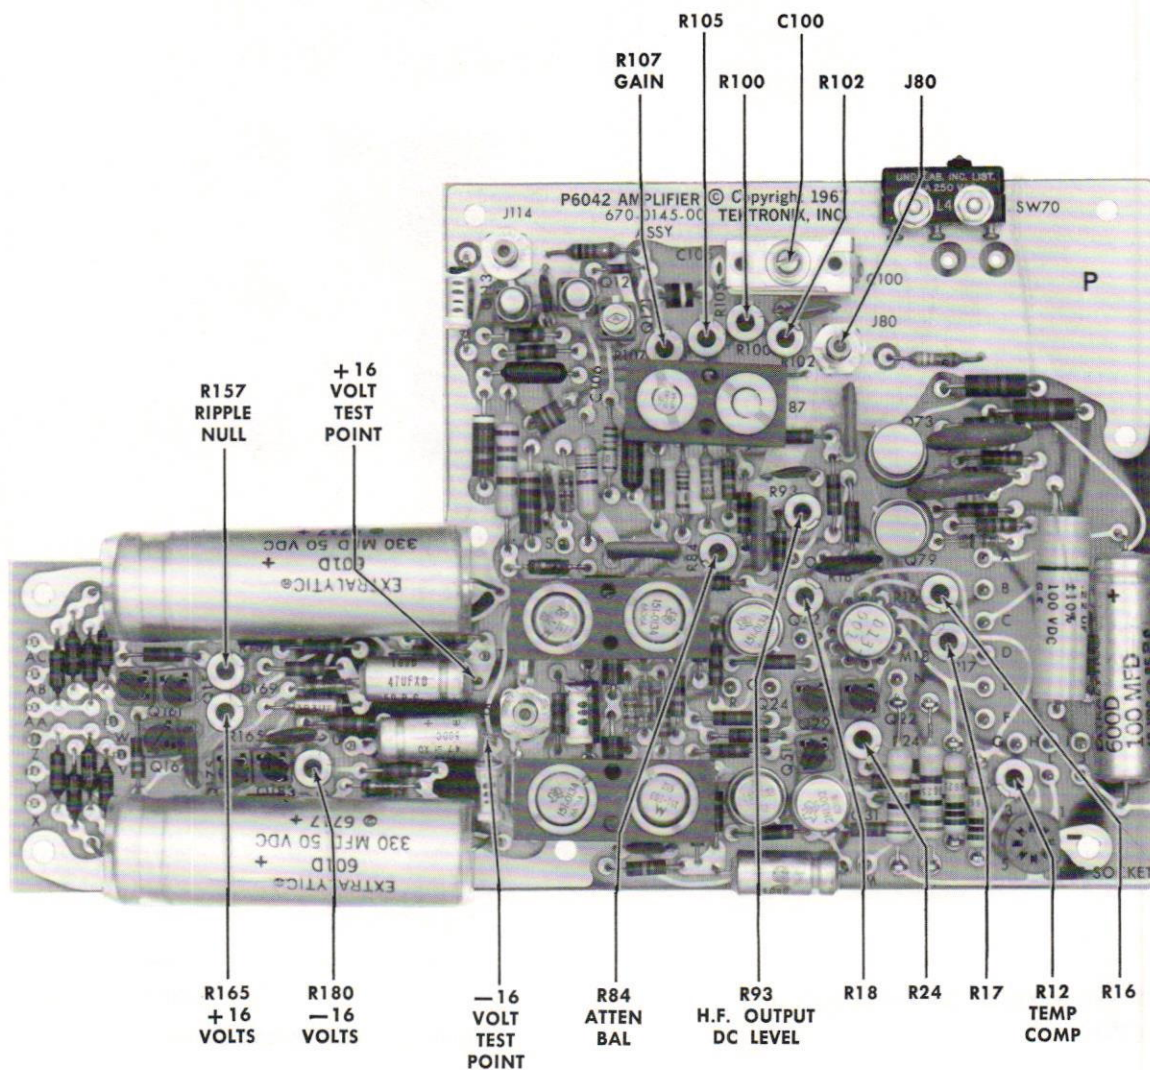

Fig. 6-3. Location of internal adjustments and test points.
Before starting the procedure, preset R16, R17, and R18 counterclockwise. Do not preset any other internal calibration controls unless they are known to be significantly out of adjustment. In this case, set the remaining controls, with the exception of R12 to midrange. Do not adjust R12, which is a part of the temperature compensation network. This is set at the factory according to the requirements of the Hall device. If the probe transformer is replaced, adjustment procedure is supplied with the replacement kit. Fig. 6-3 shows the location of internal adjustments.
- Using an ohmmeter, measure the resistance to ground at the +16 volt test point (see Fig. 6-3 for location of test point). Check for  $\geq 300 \Omega$ . Connect positive probe to test point.
- Check the resistance to ground at the -16 volt test point (see Fig. 6-3) for  $\geq 200 \Omega$ . Connect negative probe to test point.
a. Remove the connection from J80, on the amplifier circuit board. See Fig. 6-3 for location of J80.